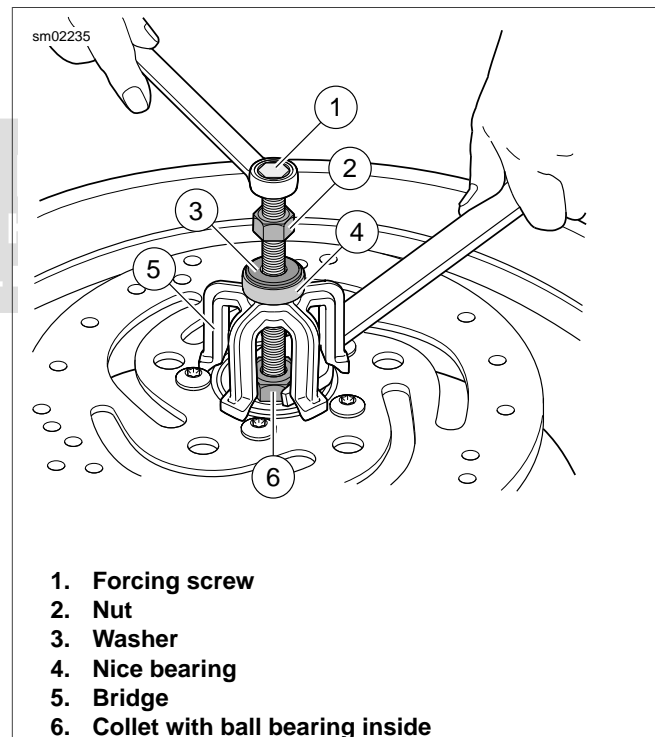

Figure 2-14. Removal Tool
3. See Figure 2-14. Obtain WHEEL BEARING INSTALLER/REMOVER (Part No. HD-44060A) and